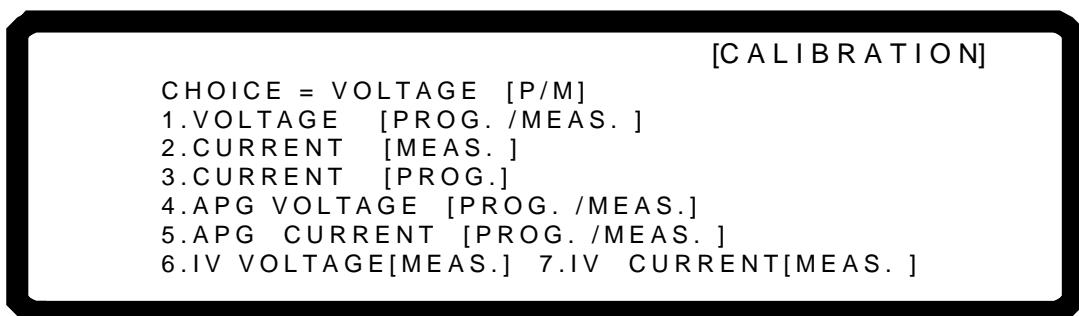

Figure 3-136
1. Go to the CALIBRATION screen as shown in Figure 3-136.
1. Go to the CALIBRATION page as shown in Figure 3-136.